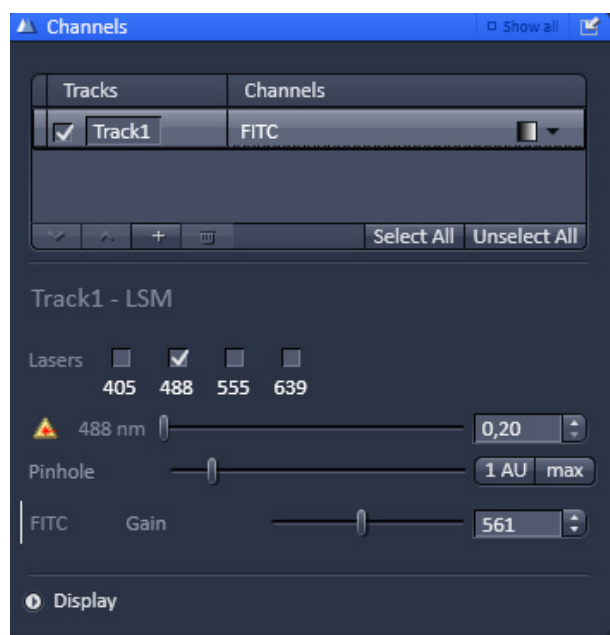

Fig. 102 Channels tool
- Activate the **Channels** tool (Fig. 102).